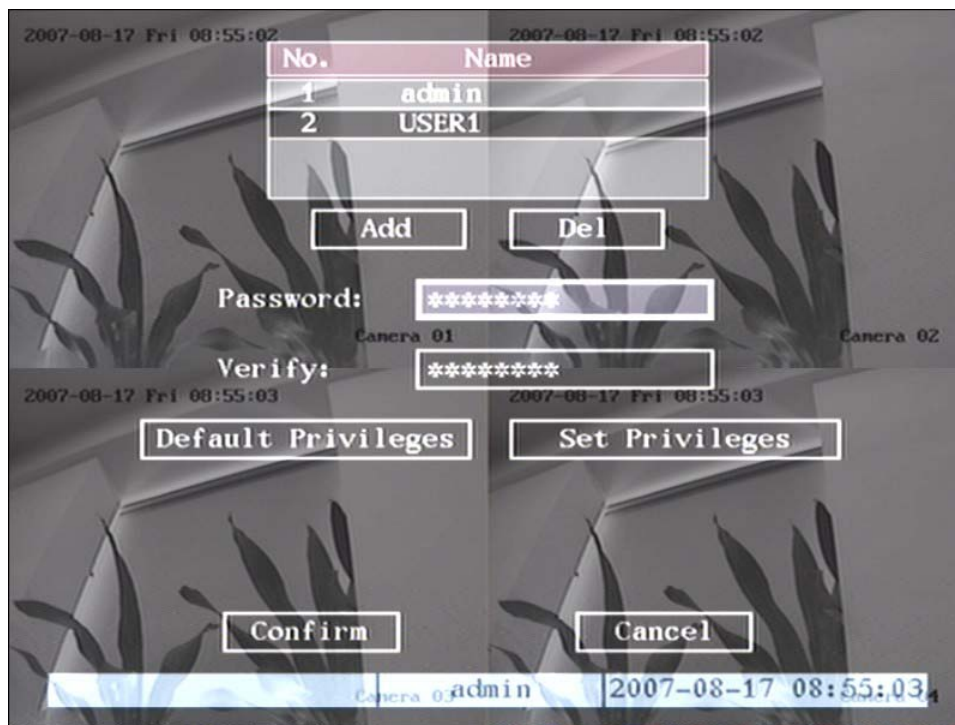

Fig 4.6 Change users' password
Step 2: Select the user name by using **【↑】**, **【↓】** then move the “Active Frame” to “Password” icon by using **【→】** / **【←】** keys. As fig 4.6 shows: